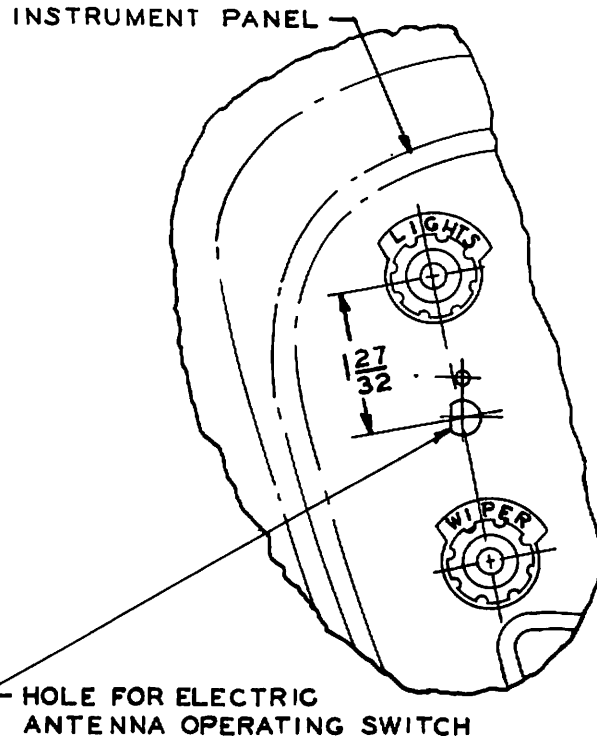
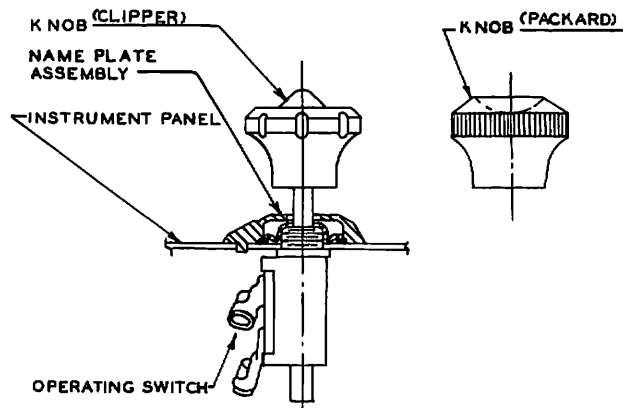

Figure 5
Figure 6
7. Locate holes behind screen already in instrument panel between headlamp switch knob and windshield wiper control knob, as shown in figure 5. (Cover this area with masking tape to avoid damaging panel.) Cut out screen to match holes in panel. Assemble switch, nameplate assembly and knob to panel. See figure 6.